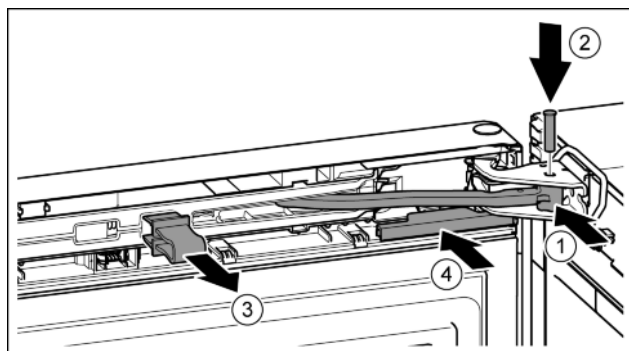

Fig. 39
- Turn the hinge in the bearing bracket. Fig. 39 (1)
- Insert bolt into the bearing bracket and hinge. Ensure here that the catch is properly fitted in the channel. Fig. 39 (2)
- Remove safety device. Fig. 39 (3)
- Slide on the cover. Fig. 39 (4)